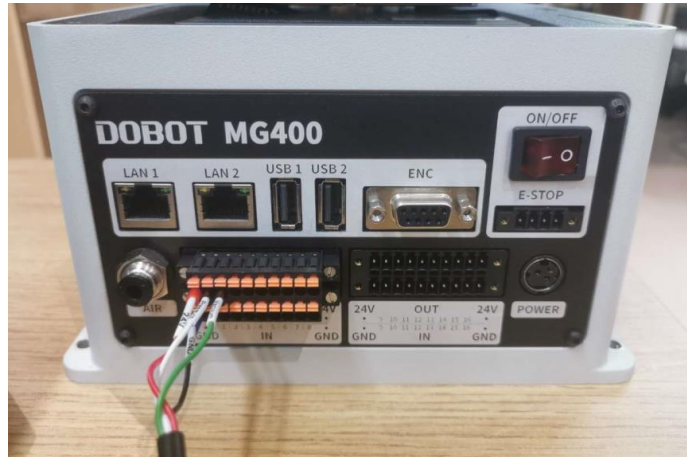

Figure 2.16 Connect gripper cable to MH400
Step 6 Connect the gripper cable to MH400, as shown in Figure 2.16. Connect 24V and GND port of gripper cable to 24V and GND port of MG400 respectively. Connect Pressure and Vacuum port to any DO port of MG400.